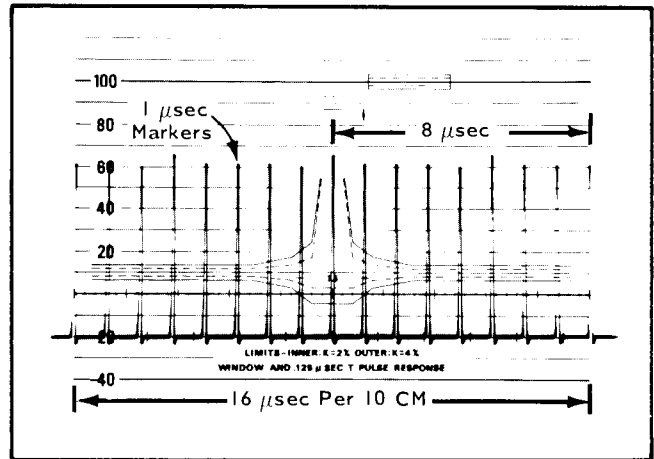

Fig. 6-21. Checking the  $\times 5$  sweep timing.
- d. Check for  $16\ \mu\text{s}$  of sweep time per 10 cm (see Fig. 6-21). Sweep-timing tolerance should be within  $\pm 3\ \text{mm}$ .